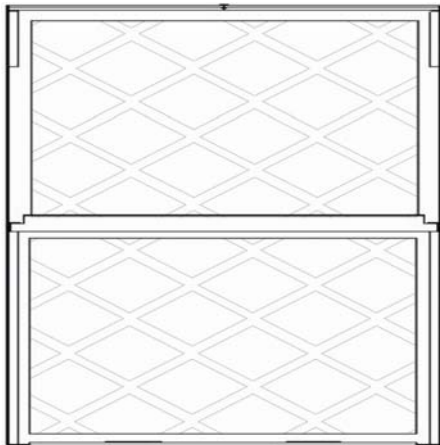

Figure 3: Return Air Louvered Door 20" x 20" x 1" Air Filters
7. Place the top air filter in the door so both air filters are installed as shown in Figure 3.